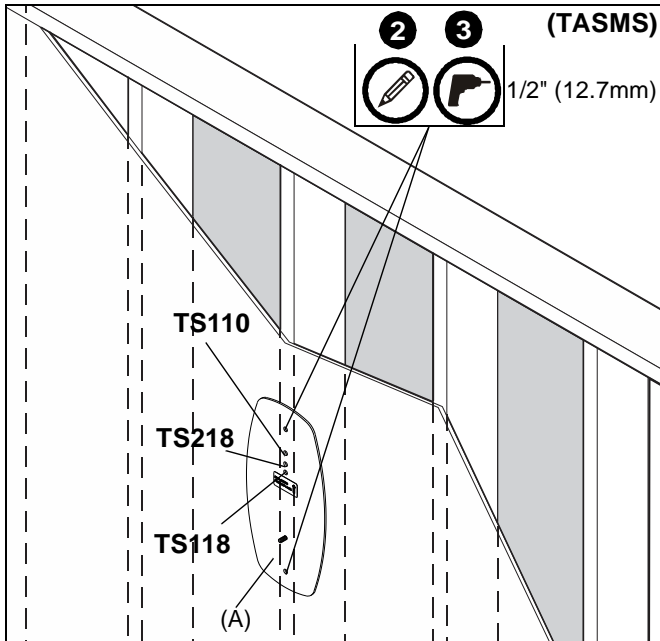
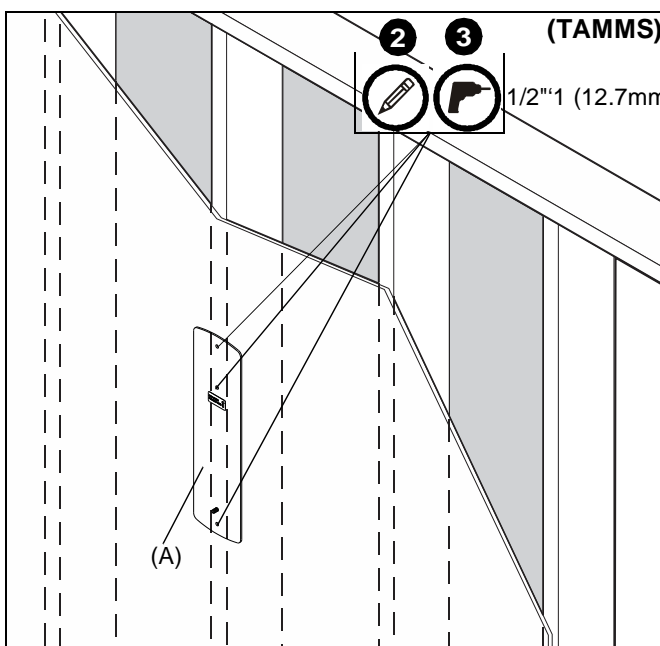

Figure 1
Figure 2
1. Hold adapter plate (A) up to the wall on top of steel stud at desired mounting location. (See Figure 1) or (See Figure 2)
2. Mark three hole locations. The middle hole to use will vary based on which mounting system is being used on the TASMS. (See Figure 1) or (See Figure 2)
3. Drill a 1/2" (12.7mm) hole at the desired mounting locations. (See Figure 1) or (See Figure 2)